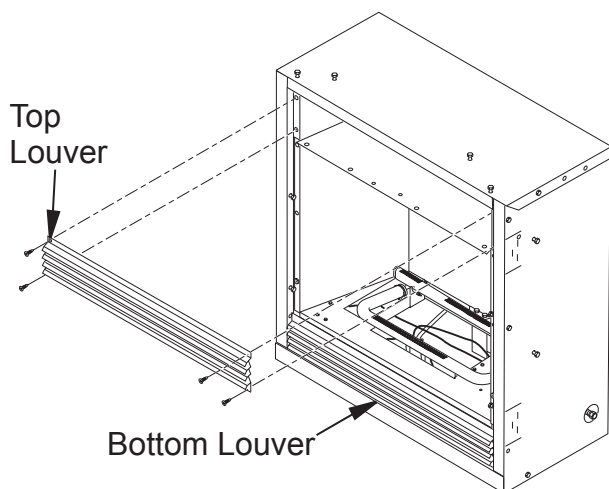

Figure 11 - Removing Top Louver and Opening Bottom Louver
2. Remove 4 screws from upper louver (see Figure 11). Save these screws.
4. Open lower louver door by swinging door down (see Figure 11).